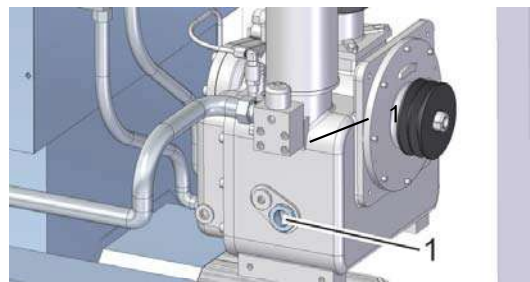

Fig. 27: Checking the oil level in the inspection glass
7. Check the oil level in the inspection glass (Fig. 27/1) and top up as described in ↪ *Chapter 7.4.3 'Checking the oil level/topping up the oil' on page 40* if necessary.